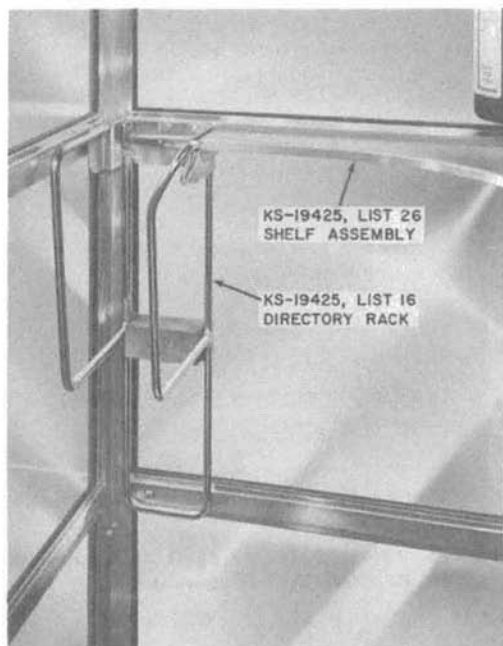

Fig. 11—KS-19425, List 16 Directory Rack and KS-19425, List 26 Shelf Assembly
- (1) Secure the shelf assembly to the backboard using two No. 10-32 by 1/2 RHM screws.
- (2) Secure the shelf assembly to the cross rails using five No. 10-32 by 1/2 RHM screws.
- (3) Refer to Section 508-710-102 for additional information on the KS-20030, List 3 directory hanger.
- (b) **KS-19425, List 16 directory rack and KS-19425, List 26 shelf assembly. (Fig. 11).**